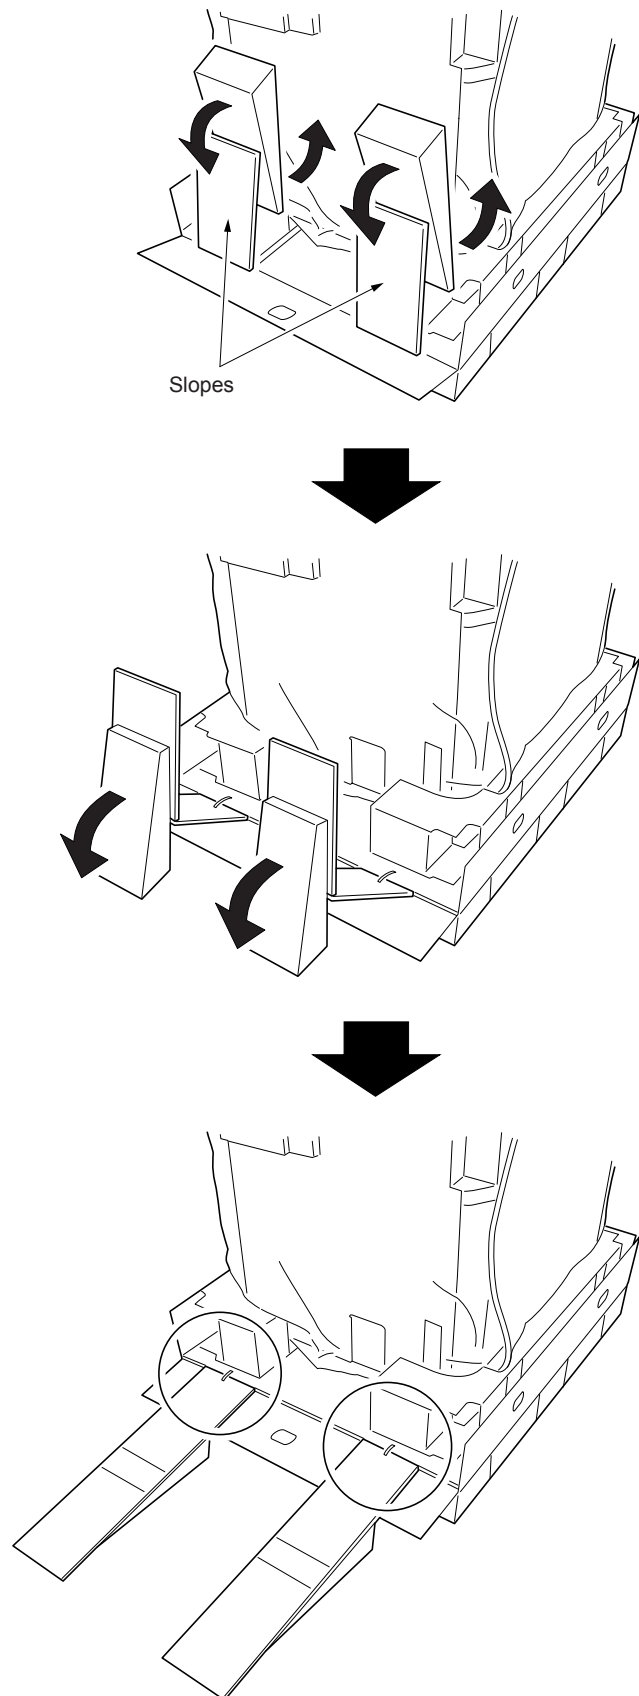

Figure 1-2-3
- * Finally, check that there is no level difference in slopes (circle section of figure 1-2-3).